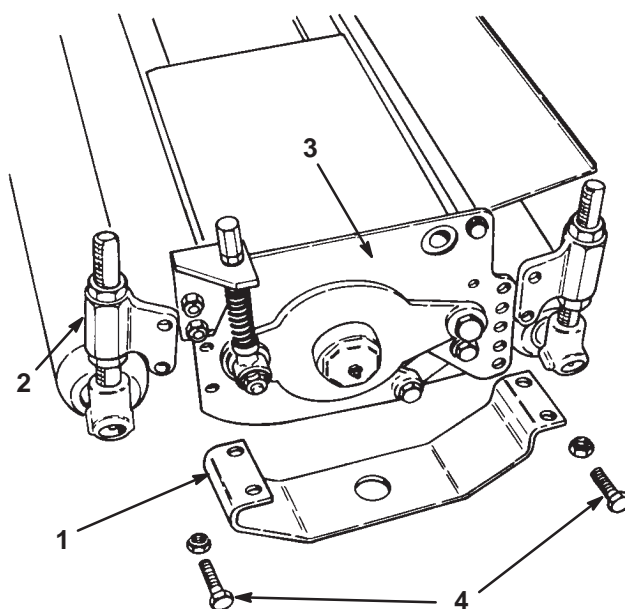
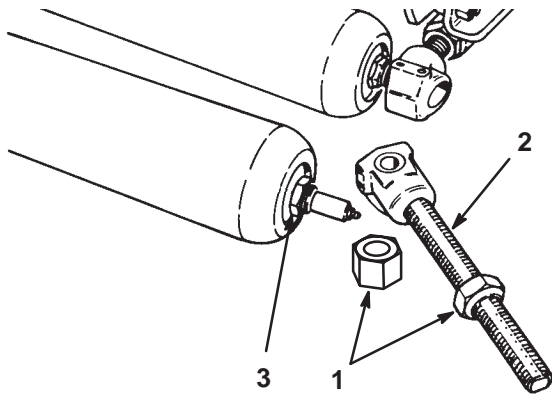

Figure 33
Figure 34
1. Remove the fasteners securing the guard and roller adjustment housing to the side plate (Fig. 33) or unscrew the upper cone nut and drop the threaded rod out of the adjustment housing (Fig. 34).
2. The threaded rod and collar assembly can be removed from the roller by sliding it off the shaft at both ends (Fig. 34).
Important When assembling a new roller to the cutting unit, mount the roller so that the roller shaft locknut is on the right side of the cutting unit (Fig. 34) (as viewed by the operator sitting on the seat of the machine). This prevents the locknut from loosening during operation.